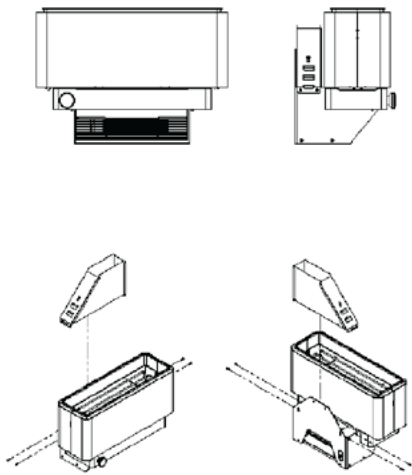

Figure 3.2: Removing the flue socket
See figures 3.2 to 3.8.
**3.2.1.** Loosen the four fixing screws holding the flue socket and remove the flue socket (figure 3.2).